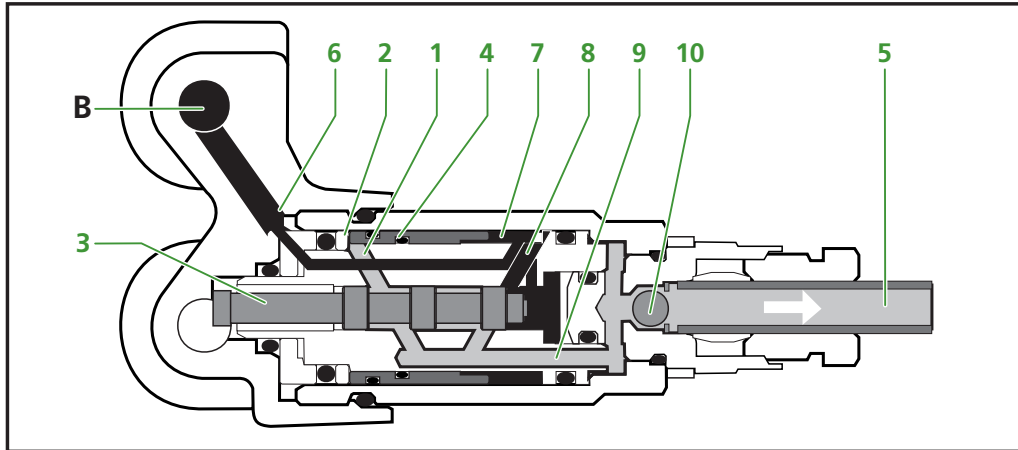

Figure 2.10 Third phase
In this phase the same happens as in phase 2. However chamber (Figure 2.10/7) is now filled with grease. Piston (4) is pushed to the right while chamber (2) is filled. The complete grease volume of chamber (Figure 2.10/7) is pressed through channel (8), piston (3), channel (9) and the secondary grease line (5) to the grease points. Sphere (10) in the non-return valve is pushed back to clear the path to the secondary grease line.